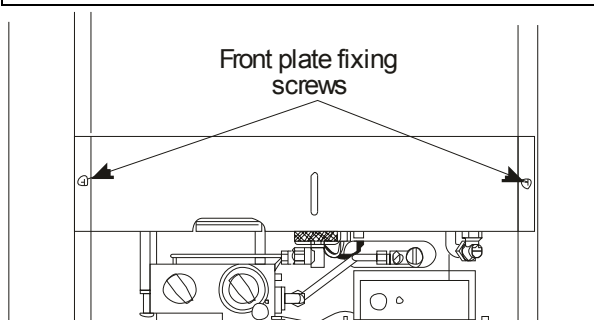

Figure 51
1. Remove the front plate by removing the two fixing screws (see **Figure 51**).